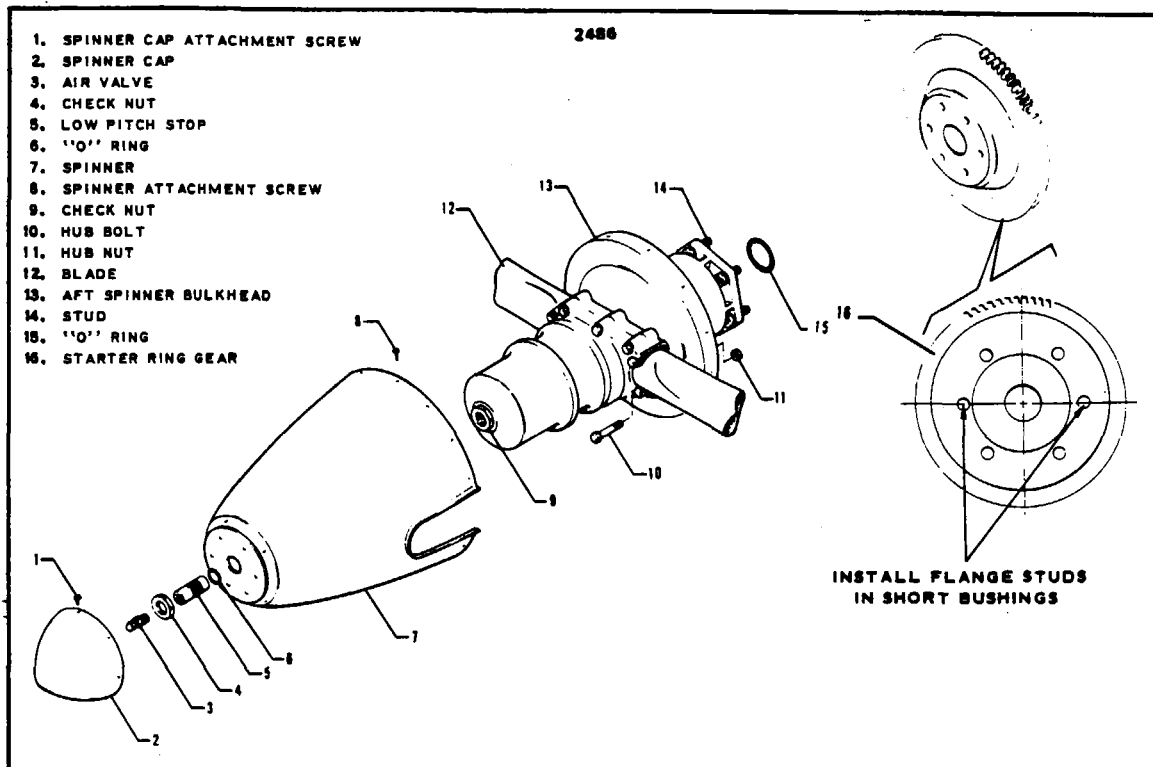

Figure 8-4. Propeller Installation
- g. Inspect blades for damage or cracks. Nicks in leading edges of blades should be filed out and all edges rounded, as cracks sometimes start from such places. Use fine emery cloth for finishing. Refer to Figure 8-4 for propeller blade care.
8-21. REMOVAL OF PROPELLER. (PA-23-250 (six place), Serial Nos. 27-2505 and up.) (Refer to Figure 8-4.) This includes all propellers, standard and with spring backup kit installed, identified by a letter "S" in the dash number.
8-23. INSTALLATION OF PROPELLER. (PA-23-250 (six place), Serial Nos. 27-2505 and up.) (Refer to Table VIII-II and Figure 8-4.)
- b. Install spinner bulkhead (13) on propeller hub and secure with locknuts. Torque bolts to specifications given in Table VIII-II.
- d. Position the prop flange and starter ring gear so the two short bushings are horizontal. (Refer to Figure 8-4.)
- e. Lubricate and install O-ring (15) in prop hub.
- h. Install spinner (7). Torque spinner screws (8) and check nut (4) per Table VIII-II. Safety check nut with MS20995-C41 wire.